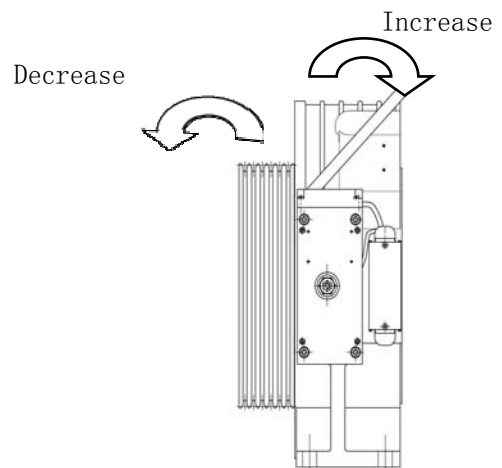

Fig. 23 Rotation of supporting screw
2. Loosen support screw tube: rotate supporting screw tubes clockwise or counterclockwise as shown in Fig.23 on P18, and use a feeler gauge to confirm air gap;